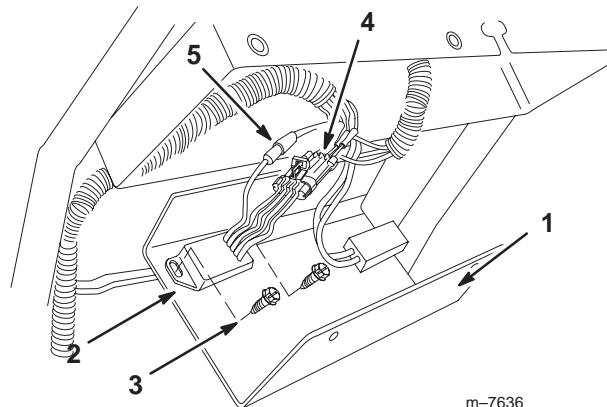

Figure 6
- Secure the new relay to the control panel cover using the fasteners removed previously (Fig. 6).
- Install the cover plate to the control panel using the fasteners removed previously (Fig. 6).